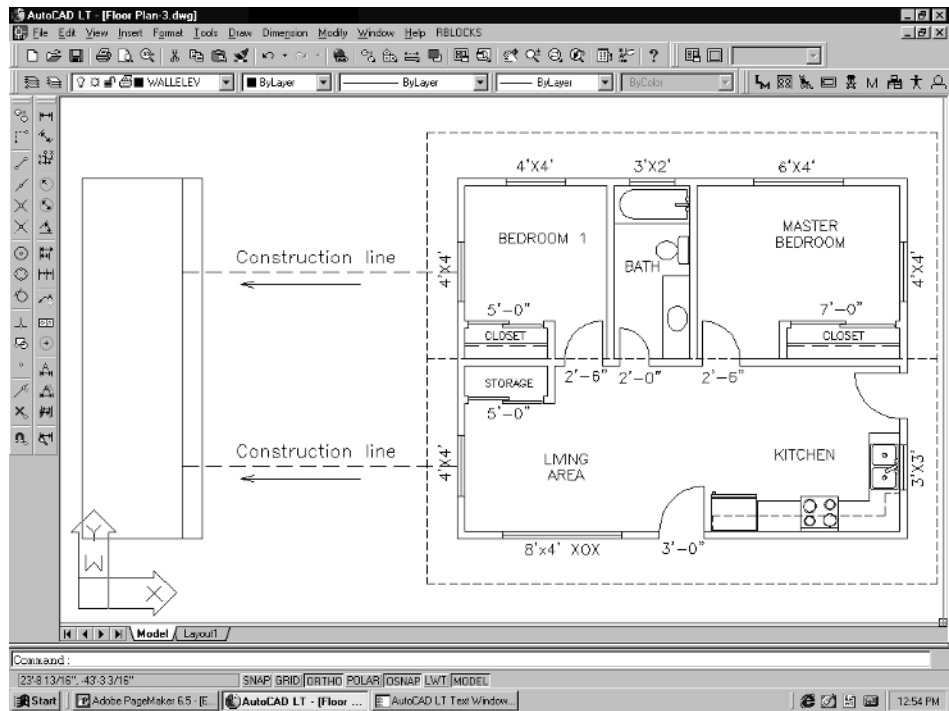

Figure 4-39
4. Next, trim the lines and draw the construction lines from the window centers to the header line. See Figure 4-39.